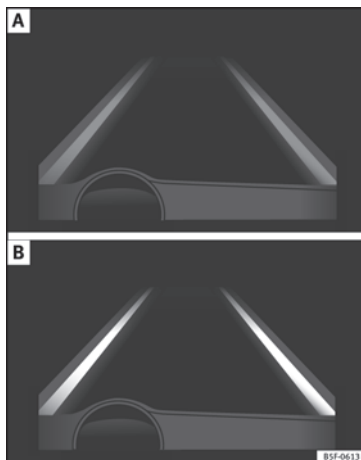

Fig. 205 On the instrument panel display: Indication on the Lane Assist system display (example 1).
- The system is active, but not available, either because the minimum speed has not been reached or because the lane lines are not recognised » **Fig. 205 A.**
- The system is active and available, both lane lines are recognised. The steering angle is not being corrected at this moment » **Fig. 205 B.**